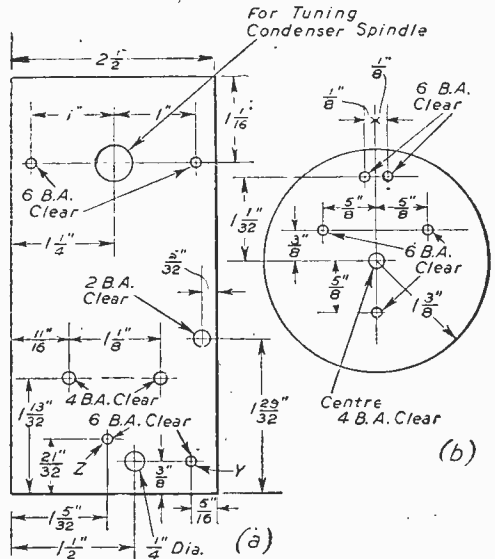

Fig. 3 (a) and (b).—Portions of the front mounting plate (a), and circular disc (b).
2. The circular plate B is the next task. This also consists of mild steel sheet. (See Fig. 3(b)).
3. The bandset tuning condenser has now to be mounted so that its spindle is centred exactly at the point marked "for tuning condenser spindle" in Fig. 3(a); and also the circular plate B has to be firmly mounted on the spindle so that its inside edge is 5/16in. away from the outside edge of plate A. See Fig. 4(a). This latter task was carried out by the author by means of the bush illustrated in Fig. 4(b). To prevent any movement of the circular plate with respect to the condenser vanes a light, V-shaped file cut was made on that face of the bush which is held against disc B. See Fig. 4(c). Two, heavy centre-punch depressions were then made in the face of the disc as shown in Fig. 4(d) and (e). These depressions created small, sharp swellings on the underface of the circular plate and these located reliably with the V-cut, thus holding the whole assembly rigid. If the reader has difficulty in making this bush it will probably be possible to obtain one already made by breaking the plastic
1. The first job is to make the front plate A out of mild steel plate as shown in Fig. 3(a). The diagram shows this plate as it would appear looking from the front of the unit. The hole marked "for tuning
The hole in the plate A may now be drilled out to the correct size in order to accommodate the particular bush used by the constructor. (This, of course, is the reason why no dimensions were originally given in Fig. 3(a).) (To be continued.)